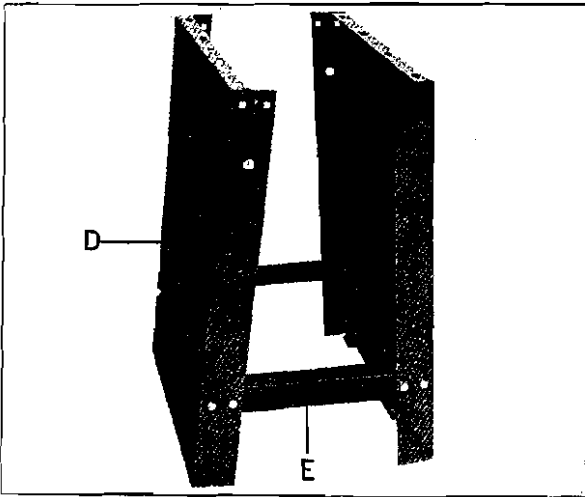

Fig. 3
**Step 1.** Bolt the two brackets (E) to the base of the two stand plates (D) as shown in Fig. 3. Use the carriage bolts and nuts provided (hardware package). Note: Do *not* tighten bolts until stand is fully assembled.